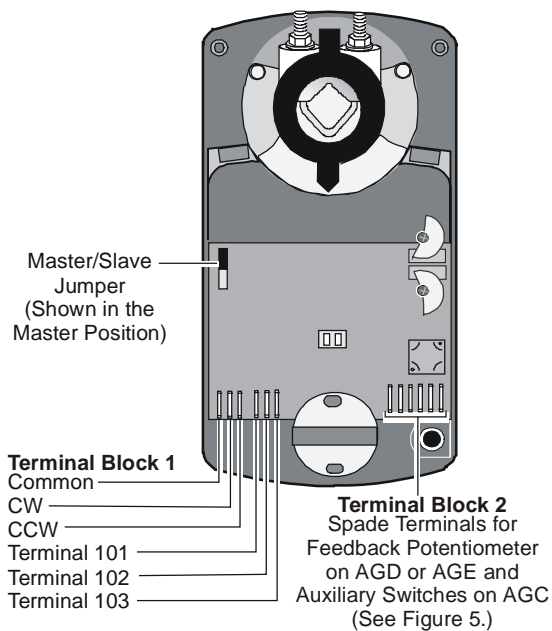
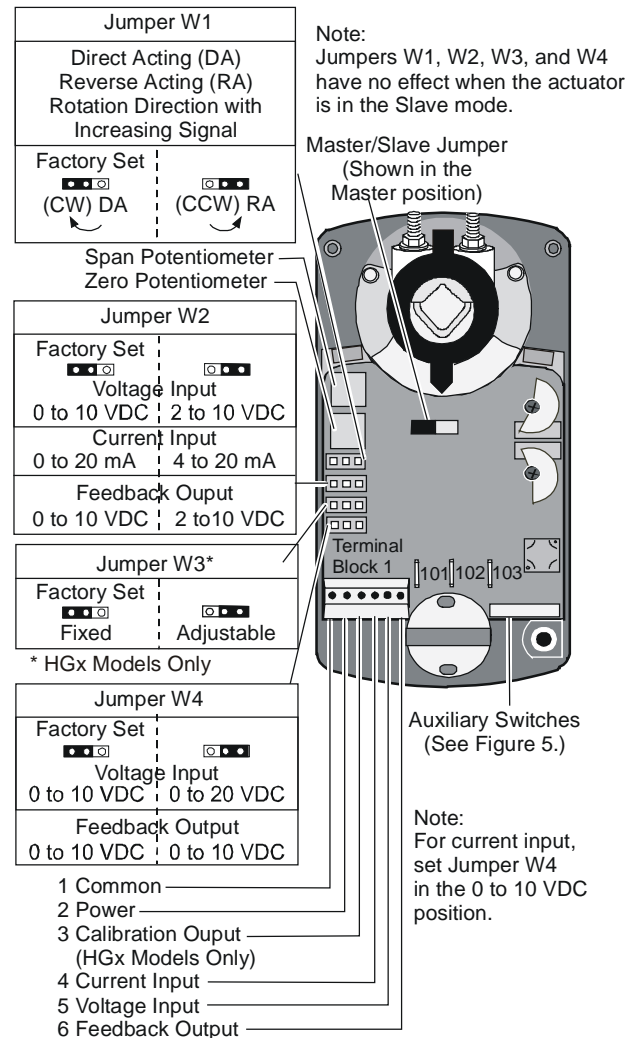

Figure 7: Settings on AGx Models
Figure 8: Settings on GGx and HGx Models
The Master/Slave Jumper is factory set in the master position. Determine the method for mounting the two actuators in tandem: front-to-back (Figure 7 shows the front view) or back-to-back, and proceed as follows:
2. Connect Terminal 101, Terminal 102, and Terminal 103 from the master actuator to the corresponding terminals on the slave actuator. (Refer to Figure 7 for AGx models and Figure 8 for GGx and HGx models.)
- For **AGx models**, connect the input control signal to the common, CW, and CCW terminals on both the master and the slave actuators. (See Figure 7.)
Note: Set the master actuator jumpers on the **GGx and HGx models** according to the action and signal range desired before proceeding. (Refer to Figure 8 and the *Setup and Adjustments, Calibration* section.)
2. Move Jumper W1 from the factory-set DA position to the RA position. (See Figure 8.)
AGx models come factory set with the Master/Slave Jumper in the master position and have no additional jumpers. **GGx, HGx, and JGx models** come factory set with Jumper W1 in the DA position. **GGx and HGx models** have additional jumpers factory set as follows: Jumper W2 is in the 0 to 10 VDC or 0 to 20 mA position, and Jumper W4 is in the 0 to 10 VDC position. (See Figure 8.)